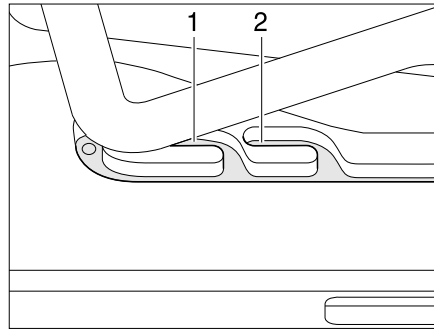
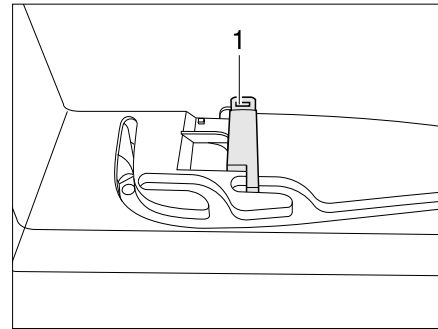

Fig. 93 Heki skylight in ventilation position
Fig. 94 Ventilation position locking mechanism
The Heki skylight can be put in two ventilation positions: Bad weather position (Fig. 93,1) and central position (Fig. 93,2). Depending on the model, the skylight can be locked in the central position with the latch (Fig. 94,1).
- Push the bar slightly upwards and into the selected guide (Fig. 93,1 or 2) and lock if necessary.